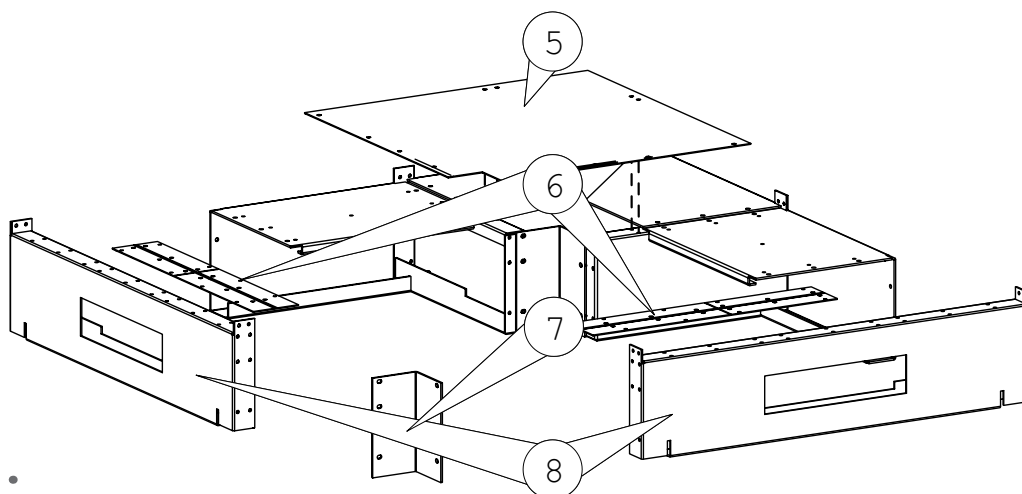

Fig. 2.49. Stage 2 of assembling corner cabinet base.
In Stage 2 you fasten two intermediate beads (6) and dividers (8) to the base. The dividers of base are joined using a rear/front jointing flange (7). On top of the assembled parts you install a bottom plate of corner cabinet instrument compartment (5). Installing of the parts is shown in Fig. 2.49.